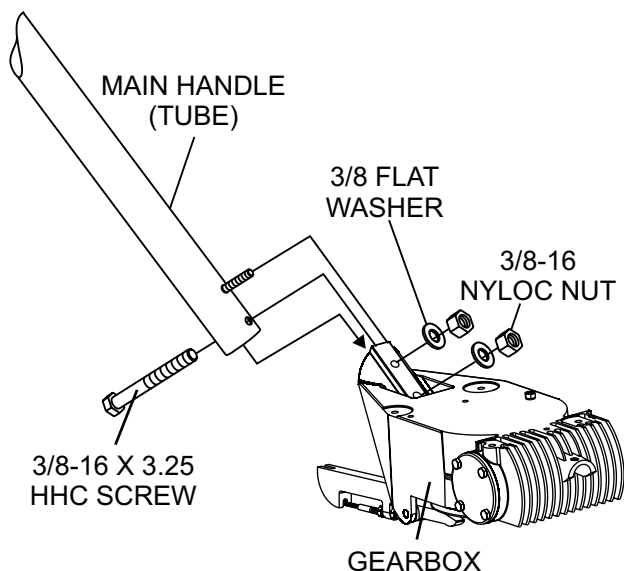

Figure 4. Handle Tube Installation
1. Attach the main handle (tube) to the gearbox as shown in Figure 4. The mounting hardware should be found within the shipping container.